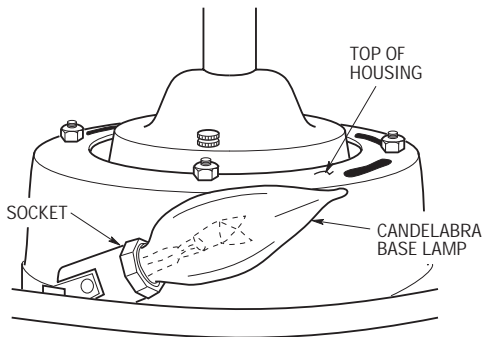

Figure 5
11. Screw in four 60-watt (maximum) candelabra base lamps in the housing sockets (Figure 5). Grasp the sockets and pivot them until the lamp bulbs are even with the top of the housing as shown. This will provide the optimum lighting effect.